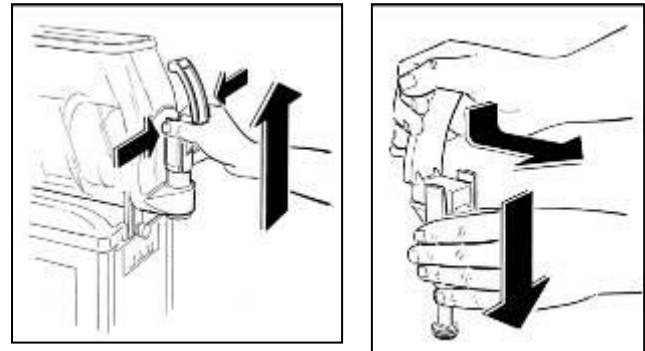

Fig. 7
- **S**imultaneously press the two securing tabs and lift the tap to extract it from its seat (see fig.7).
- **D**isassemble the tap by keeping the body pressed down and slipping the lever from its seat (fig.7).